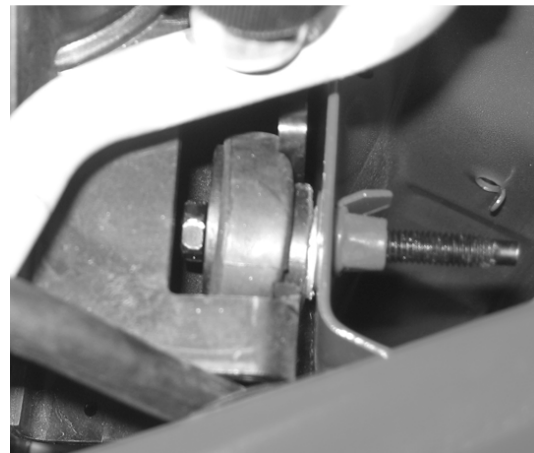

Fig. 3
9. Remove the two rubber bushings that hold the top of the radiator to the frame of the truck. Cut the bushings in half and replace as shown in Fig. 3. The radiator will shift forward as the screws are tightened.